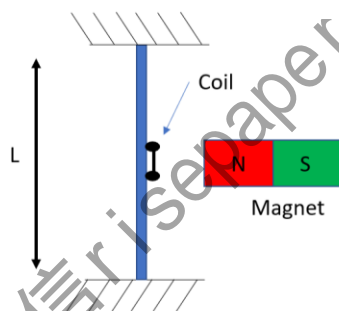

Figure Q3a
3. Figure Q3a shows the schematic of a tweeter type loudspeaker. It consists of a thin membrane that deflects horizontally and radiates sound. For the purposes of this question you can model this membrane as a beam. A coil of very thin wire is attached to the centre of the beam and a magnet is placed next to it. You may assume that the coil is mass-less except where otherwise stated. The centre of the beam experiences a force if a current is passed through the coil. The natural frequencies of the first three modes of vibration of the system are to be analysed.
- State all the boundary conditions that are required to model the flexural vibration of the beam in figure Q3a in form of equations. [2%]